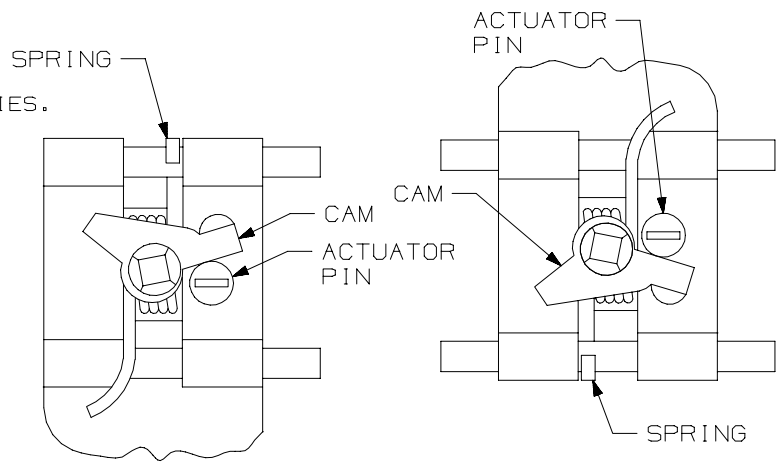

FIGURE 1
- ③
- D. CHECK CAM POSITION ON PUSH HANDLE ASSEMBLY. (SEE FIGURE 1)